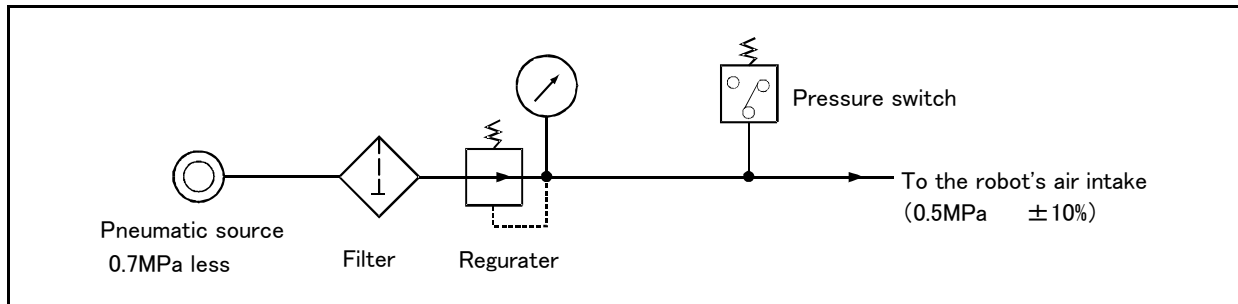

Fig.2-12 : Air supply circuit example for the hand
Fig. 2-12 shows an example of pneumatic supply circuitry for the hand.
- (1) Place diodes parallel to the solenoid coil.
- (2) When the factory pneumatic pressure drops, as a result of the hand clamp strength weakening, there can be damage to the work. To prevent it, install a pressure switch to the source of the air as shown in Fig. 2-12 and use the circuit described so that the robot stops when pressure drops. Use a hand with a spring-pressure clamp, or a mechanical lock-type hand, that can be used in cases where the pressure switch becomes damaged.
- (3) The optional hand and solenoid valve are of an oilless type. If they are used, don't use any lubricator.